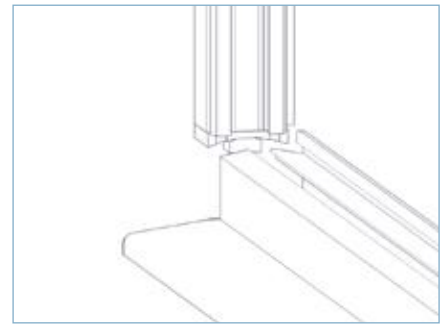

FIG 4A
► **4.4.** Position the jambs into the tracks using the connectors provided as shown in FIG 4A.